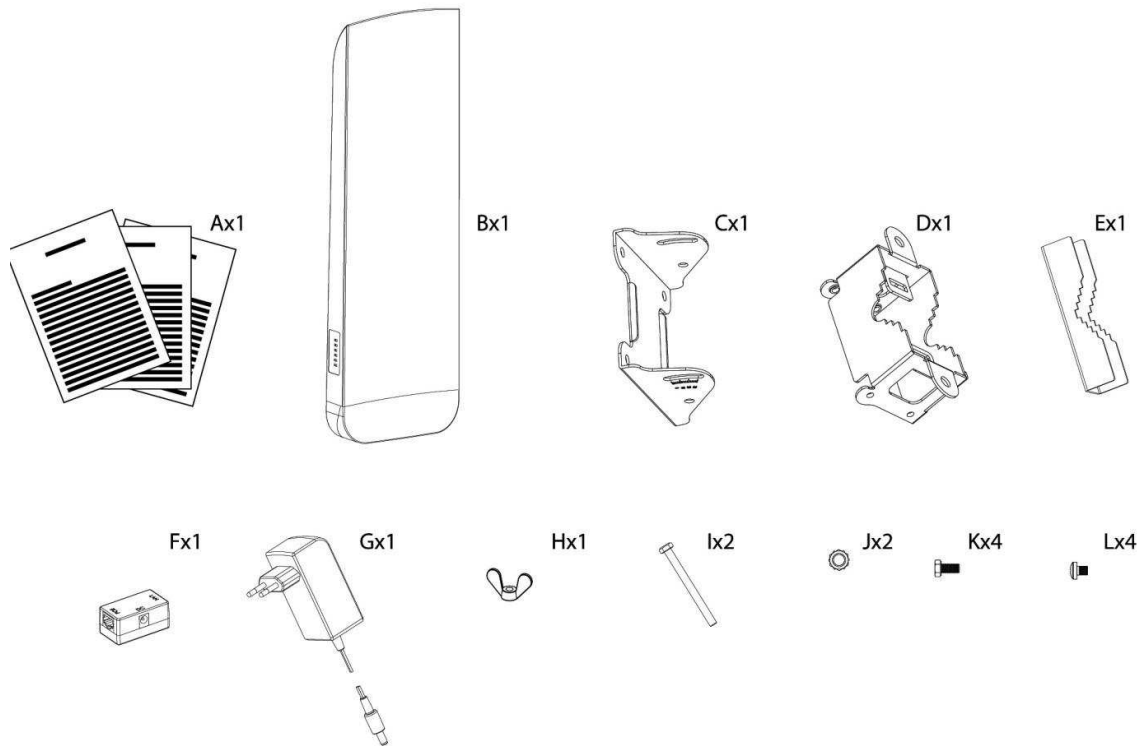

Figure 1 – APC 5M-90 V2 Package Contents
- Step 4.** Attach the mounting hardware to the device: first fix mounting hardware part 1 with four Hex bolts M4x5 (items C and L in the *Figure 1 – APC 5M-90 V2 Package Contents*), then attach the mounting hardware part 2 and fix it with four Hex bolts M5x10 (items D and K in the *Figure 1 – APC 5M-90 V2 Package Contents*).
For pole mounting attach mounting hardware part 3 (item E in the *Figure 1 – APC 5M-90 V2 Package Contents*) and the unit on a pole and fix them with M6 bolts and nuts (items I and J in the *Figure 1 – APC 5M-90 V2 Package Contents*):
- Step 5.** Ground the APC 5M-90 V2 unit. The unit must be properly grounded to protect against lightning. The grounding wire must be attached to the grounding stud and tightened with the nut (item H in *the Figure 1 – APC 5M-90 V2 Package Contents*):
- Step 6.** Connect AC adapter into PoE injector (items F and G in *the Figure 1 – APC 5M-90 V2 Package Contents*) together with UTP cables as displayed in the picture below: